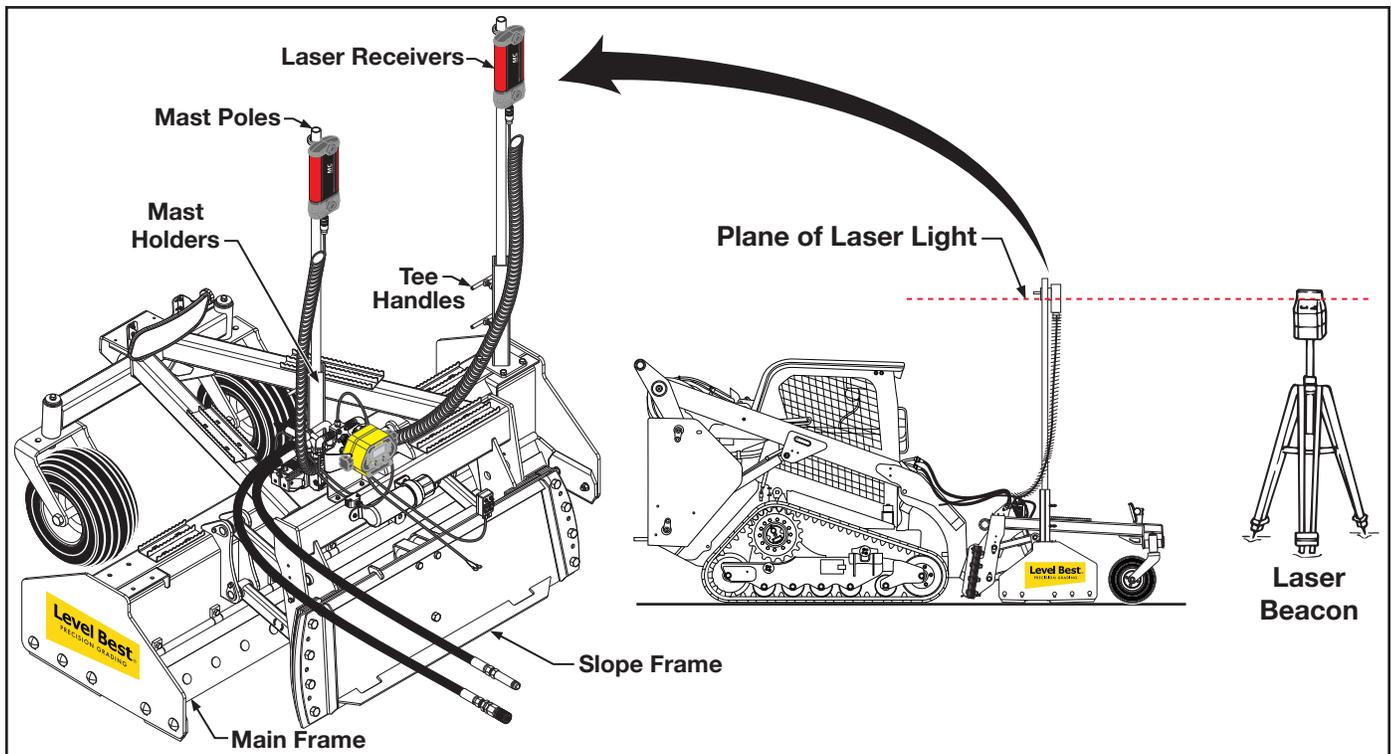

Figure 22. Components of the Automatic Control System on a Skid Steer
6. Insert the two mast poles in the holders, one in the center and one on the right side, until they rest at the bottom of the tube. Tighten the tee handles to secure the masts. Clamp a laser receiver near the top of each mast so it is higher than any local obstructions including the skid steer cab or fall protection devices. (Refer to Figure 22).